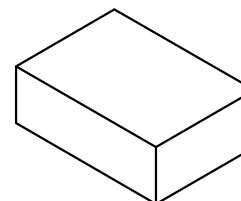

图3 内盒包装
- 2: As shown in Figure 3, each inner box is packed with 7 small bags, and the material label is affixed after the box is packed. The quantity is 8X1000pcs.